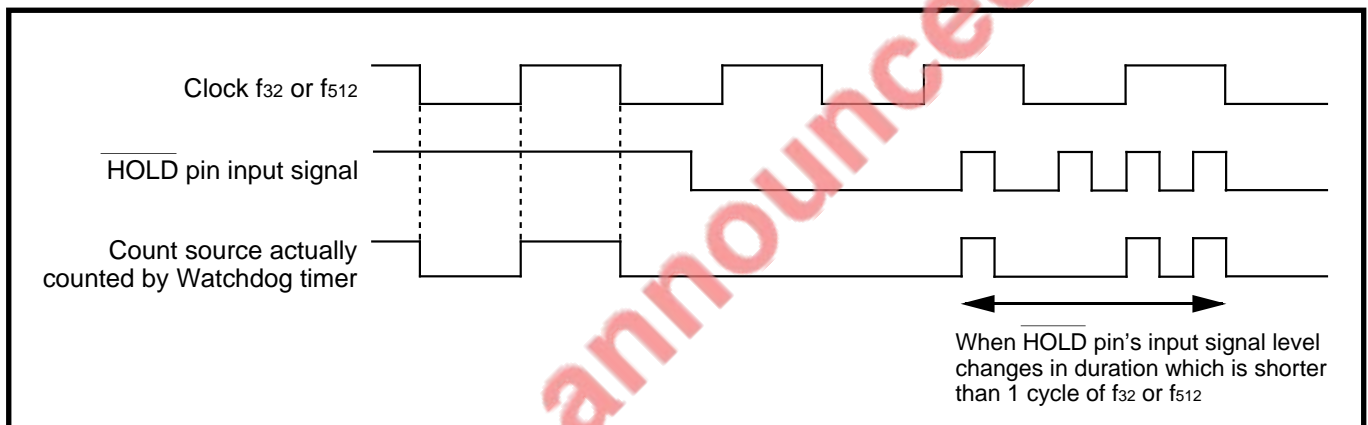

Fig. 9.3.1 Watchdog timer's count source
3. To stop Watchdog timer in Hold state, the count source which is actually counted by Watchdog timer is the logical AND product of two signals. One is the inverted signal input from the **HOLD** pin, and the other is the count source ( $f_{32}$  or  $f_{512}$ )(Note). Accordingly, when the **HOLD** pin’s input signal level changes in a duration which is shorter than 1 cycle of the count source (**Note**), counting by Watchdog timer can be performed. (Refer to Figure 9.3.1.)